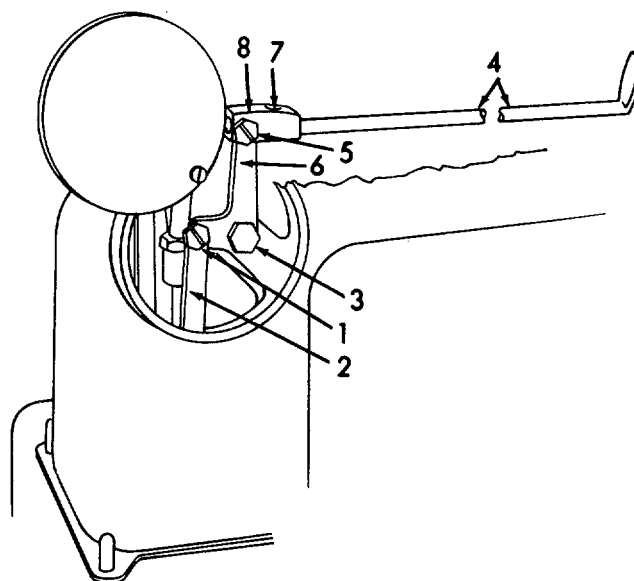

Figure 6-144. Push Rod and Pivot Lever, Removal
- (3) Refer to Figure 6-144. Remove screw (1).
- (4) Remove connecting strap (2).
- (5) Remove screw (3).
- (6) Loosen two setscrews (7) and remove connector block (8) from push rod (4).
- (7) Remove push rod (4) out front of arm.
- (8) Remove stud (5) and separate pivot lever (6) from push rod (4).